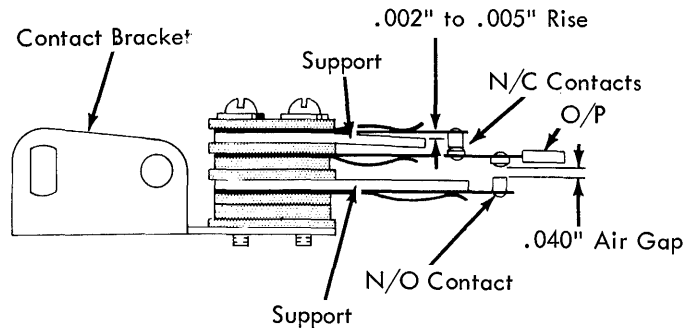

FIGURE 63. Mode Contact
10. Keyboard Mode Contacts - Form the N/C support so that the O/P lifts the N/C contact by .002" to .005" (Fig. 63).
11. Form the N/O support so that the N/O contact clears the O/P by .040" (Fig. 63).